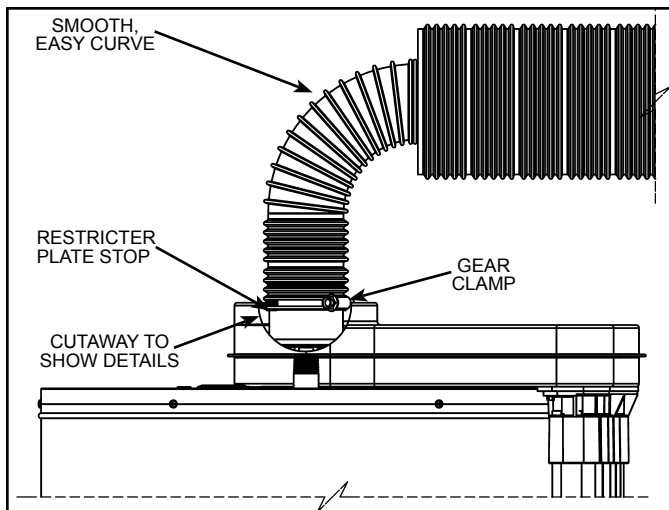
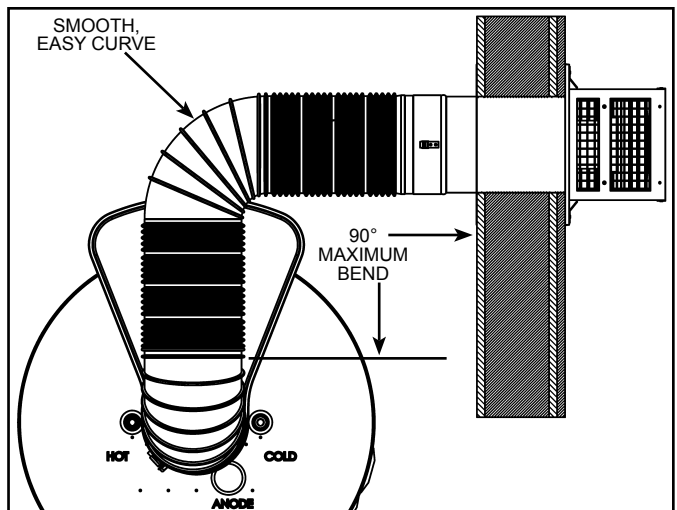
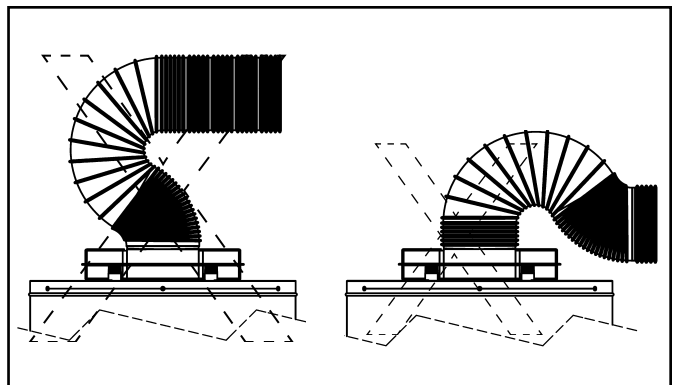

Figure 24
Figure 26
Figure 27
- Do not use the restrictor plate in an offset installation (see Figure 26).
Bend both the corrugated pipes toward the flue connection on the water heater. Pull and connect the inner corrugated pipe to the water heater's flue tube reducer with hi-temp red silicone (included) and gear clamp. Make sure this connection is tight and leak proof (see Figure 24).
Note: To ensure good exhaust gas flow, bend vent piping using a smooth, easy curve as shown in Figure 24 thru Figure 26. Do not use reverse or compound curves as shown in Figure 27.